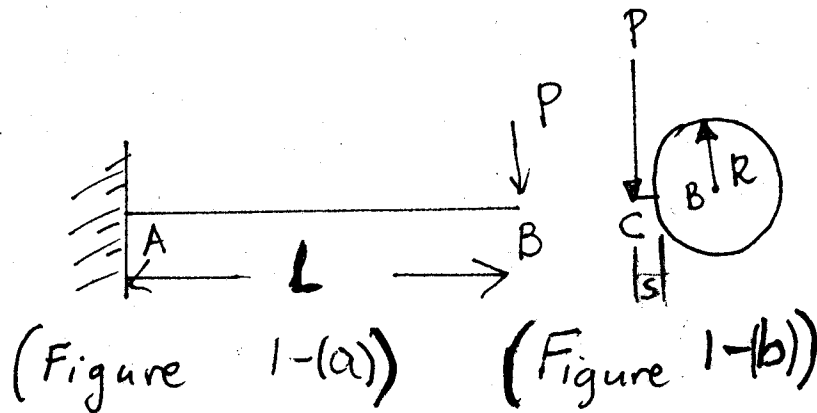

Figure 1
1. (25 pts) The straight uniform material beam of length L given in Figure 1-(a) has a circular cross-section of radius R . It is subject to a vertical load P applied as shown in Figure 1-(b). If you are given the Young's modulus of elasticity E and the shear modulus G , calculate the vertical displacement at the point C (the length s is negligible) where the force P is applied. Shear deformation due to bending may be neglected.